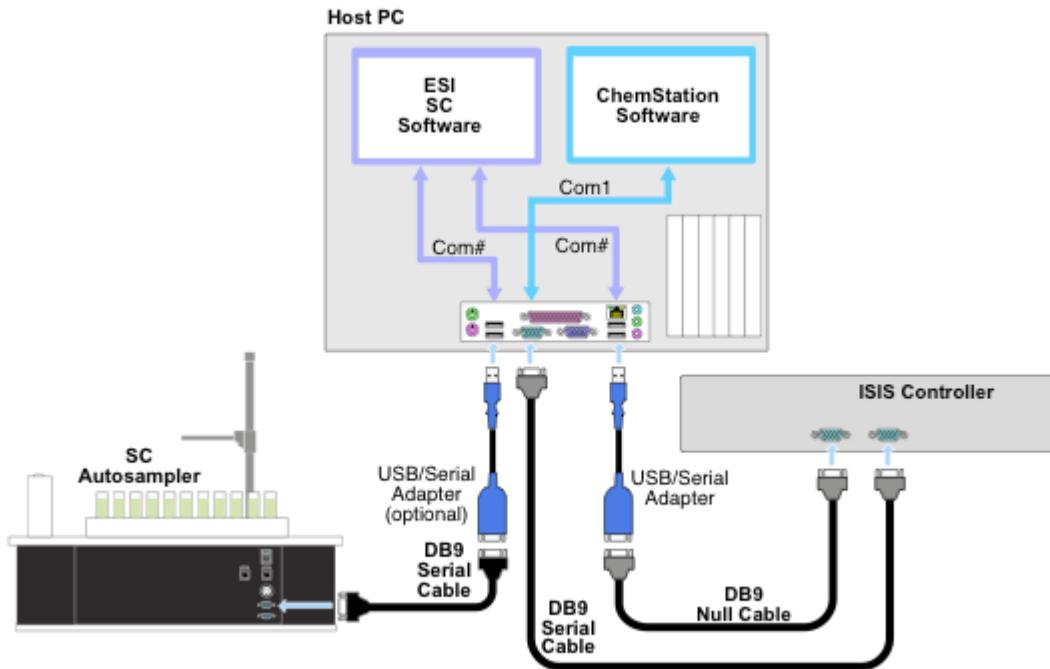

Figure 5: Connection option for ChemStation w/ISIS & ESI SC with SC autosampler.
- 2) Determine the type of connection to be used. If the ISIS component is present, the second connection option will be required. See Figure 5.
Type C: The second diagram Figure 5, shows a system that includes the ISIS controller. One RS-232 port is used by the ESI SC software to redirect the communication back to the host computer and control the SC Autosampler.